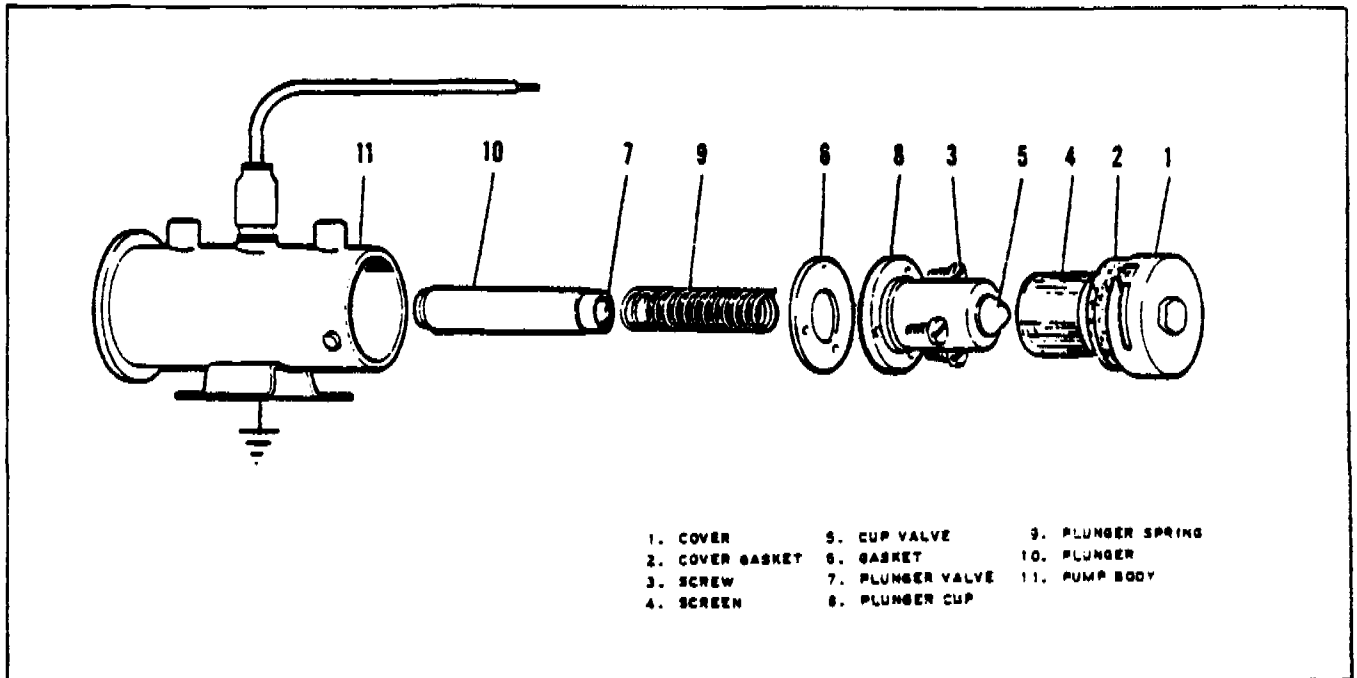
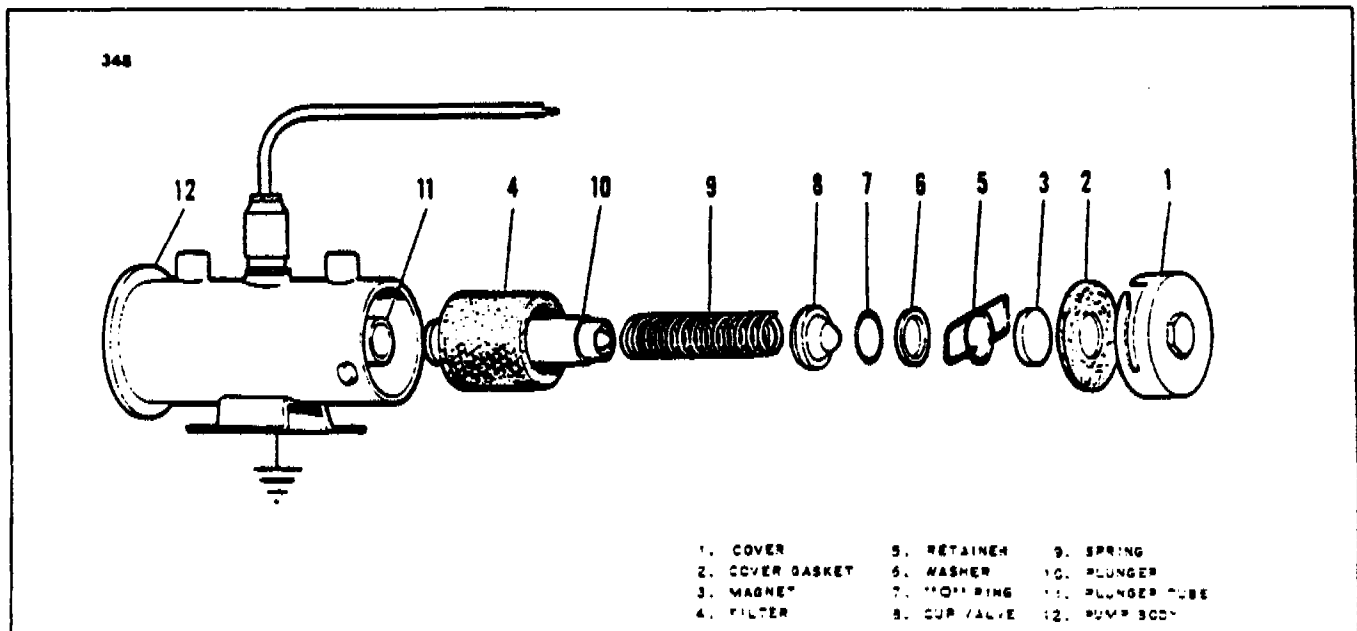

FIGURE 8-15. BENDIX PLUNGER FUEL PUMP (EARLY)
FIGURE 8-16. BENDIX PLUNGER FUEL PUMP (LATE)
Field service is limited to the extent of cleaning the bottom cover, filter screen, plunger tube and plunger assembly. On the PA-24-180 and PA-24-250 aircraft, pump internal parts differ with the early style (refer to figure 8-15) and the late style (refer to figure 8-16). On the PA-24-260 only the late style pump is used.
1. Early Plunger Pump. (Refer to Figure 8-15.)
a. To service the early pump, detach from the aircraft and remove the bottom cover (1) and filter screen (4) as explained in paragraph 8-22.
b. Disassemble the plunger spring cup (8) by removing the three screws (3) securing the cup. Gently touch the plastic cup valve (5) with your finger. If it is free, do not remove the valve spring. Do not apply air pressure to this assembly. Use long nose pliers to replace valve assembly if it falls out of the cup. It will click when the assembly is properly seated.
c. Pull the plunger spring (9) and plunger assembly (10) from the pump with your fingers. Do not drop or mutilate the plunger. The buffer spring and valve (7) must not be removed from the plunger. Wash the plunger assembly in gasoline or a reliable solvent. If it does not wash clean or if there are any rough spots, gently dress with crocus cloth.
2. Late Plunger Pump. (Refer to Figure 8-16.)
- a. Detach pump from the aircraft and remove the bottom cover (1), gasket (2) and filter (4).
- b. Remove the retainer spring (5) from the plunger tube (11) using thin nose pliers to spread and remove ends of retainer from tube. Then remove washer (6), "O" ring seal (7), cup valve (8), plunger spring (9) and plunger (10) from tube (11).
- d. To reassemble the pump, insert the plunger assembly (10) in the tube with the buffer spring end first. Check fit by slowly raising and lowering the plunger in the tube. It should move freely without any tendency to stick. If a click cannot be heard, the interrupter assembly is not functioning properly in which case the pump should be replaced.
- e. To complete the assembly, install the plunger spring (9), cup valve (8), "O" ring seal (7) and washer (6). Compress spring (9) and assemble retainer (5) with ends of retainer in side holes of tube (11). Reinstall filter, cover gasket, magnet and cover. Safety and install on aircraft. Check for fuel leakage.